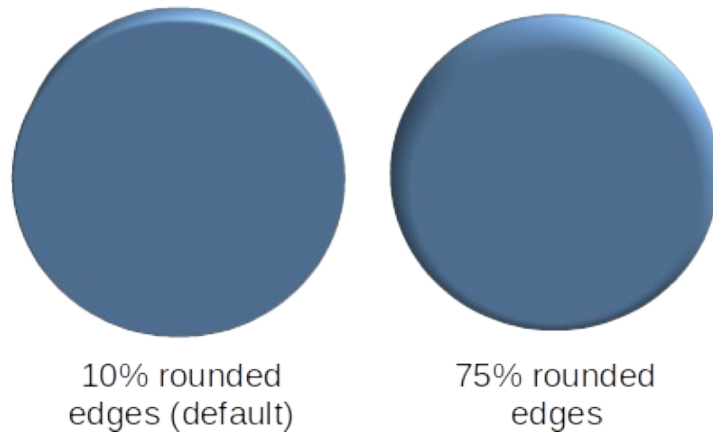

Figure 13: Example of rounded edges
- *Rounded edges* – enter the amount required to round the corners of a 3D shape as shown by the example in Figure 13. The default setting for rounded edges is 10%.